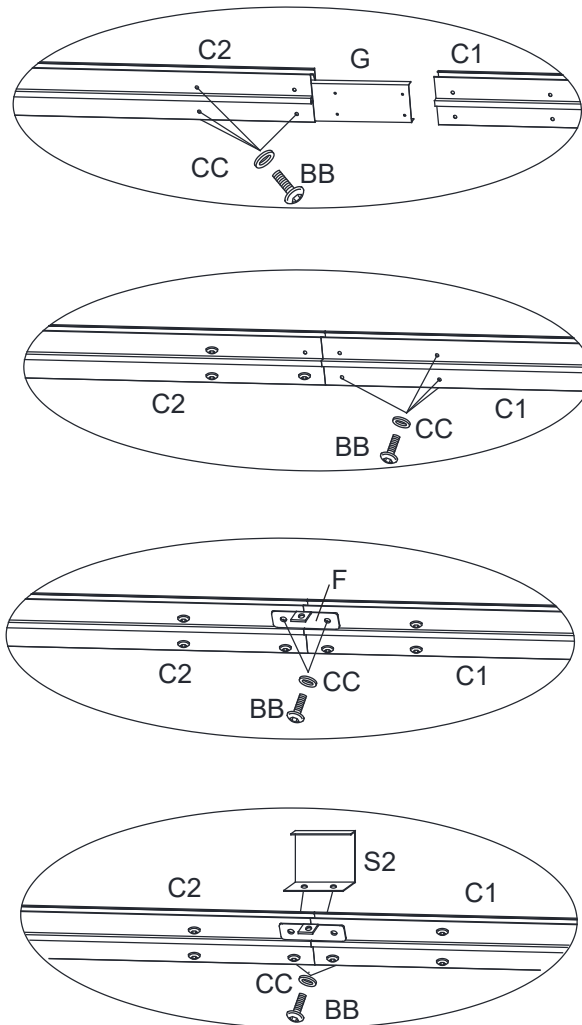

Fig.2.2
2.2. Connect the Short Left Lintel (C1) with the Short Right Lintel (C2) through the Lintel Connector - Large (G) by bolt (BB) and washer (CC), then connect the Connector (F) to the joint of the lintel (C1/C2) by bolt (BB) and washer (CC), put the Lintel Cover - Center (S2) onto the joint of the two lintels with bolt (BB) and washer (CC), pay attention to install the screws based on the orders shown in the illustration. See.Fig.2.2